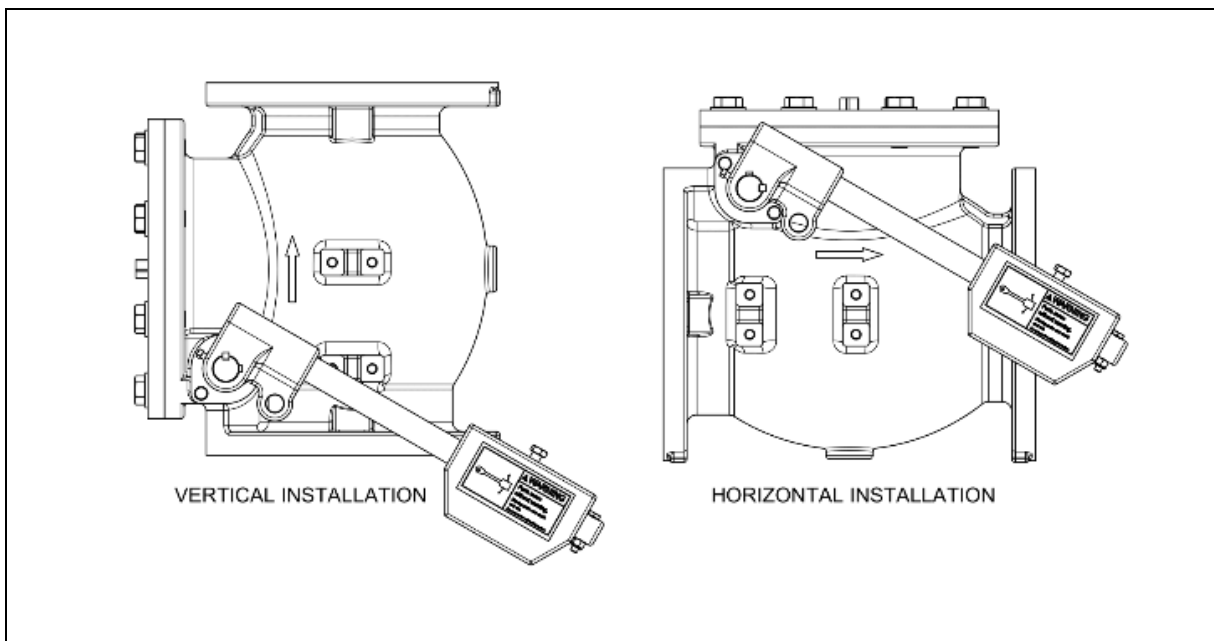

Figure 1: Vertical and Horizontal Installations
- APCO CVS-6000 Swing Check Valves may be installed in a horizontal or vertical (with flow upwards) orientation. For vertical flow upward, if the CVS-6000 is equipped with a Lever & Weight (LW), the counterweight ARM (B28) should be rotated 90° and the alternate keyway in the Shaft Connector (B19) should be used. See Figure 1.